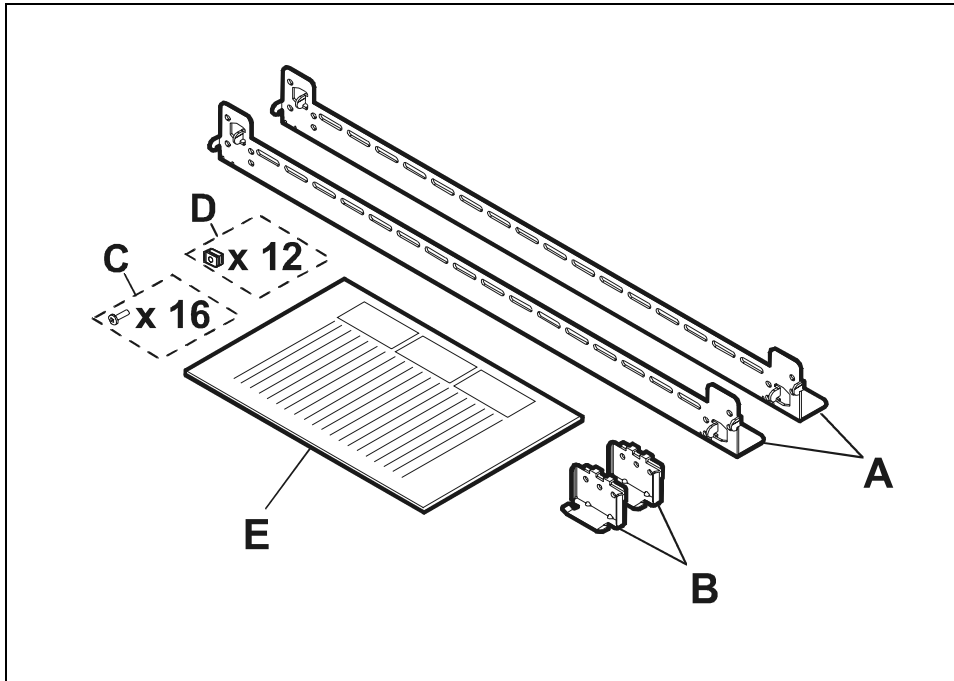

Figure 17 Rail Kit A5251A Contents
- 1. Unpack the rail kit and verify the following contents (Table 9 and Figure 17).